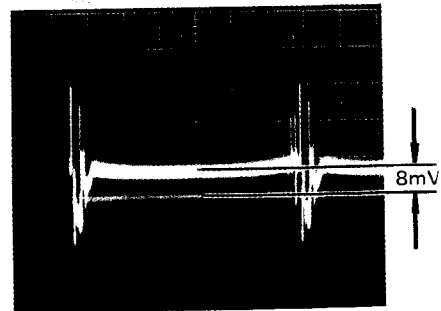

Fig. 5-4-9
- o Trigger the oscilloscope at H.rate (Use TP9 (BL), Deflection board.).
- o Adjust VR35 (BIAS LIGHT) so that the bias light level is 8mV. (Fig. 5-4-9)